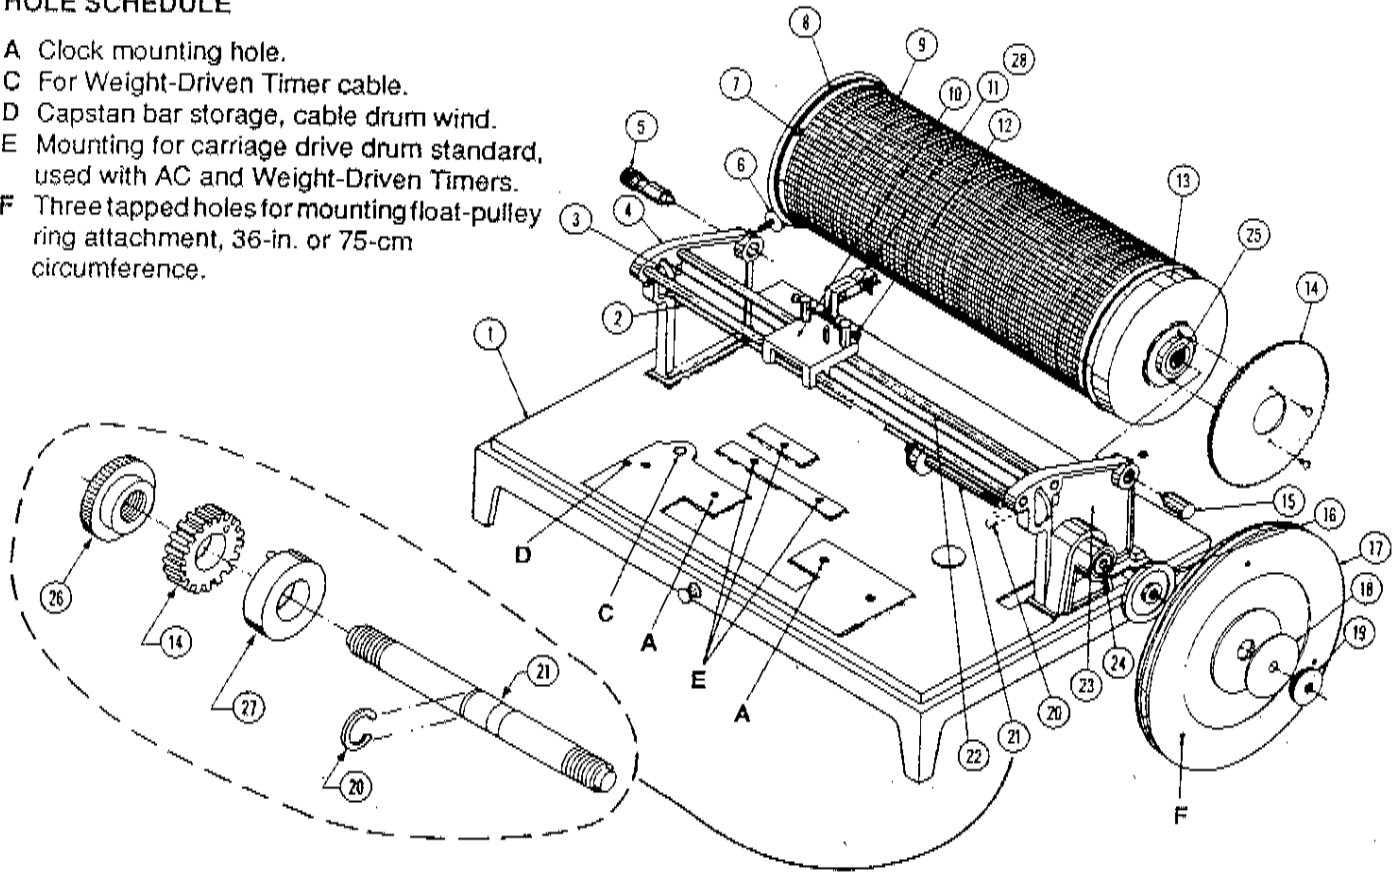

Figure 6. Exploded View of F68
- Step 2. Refer to Figure 6. Roll both of the chart holder springs (item 8) to the gear end of the chart drum (item 13). Remove the used chart.
- Step 3. Slip a new chart from the far side and underneath the chart drum, pulling the edges together and lapping the trimmed edge over the margin. See that the slot in the left chart margin engages the pin (Figure 6, item 7) in the chart drum. Match the lines and push the chart against the left flange of the chart drum. Replace the spring chart-bands at the left end and at the right end of the chart.
Set the marker to its approximate position by slowly pushing the marker's carriage (Figure 6, item 10) to the right.
Refer to Figure 6. Set the marker to the starting point, without changing the time scale position (Section 3.7.1), by releasing the float pulley nut (item 19) and rotating the chart drum (item 13) while holding the float pulley (item 17) stationary. Tighten the clamp nut when adjustment has been made. Note that during this adjustment the carriage should not be moved.
There are three kinds of Timers: QMT, AC Timer, and Weight-Driven Timer. All three are interchangeable in the field without special tools. The mounting holes are already present (see Figure 6, item A).
- 2a. Install two 1/4-20 x 3/4 setscrews into the threaded holes (Figure 6, "A"). Leave approximately 3/8" (1 cm) of screw extending above the base plate of the F68.